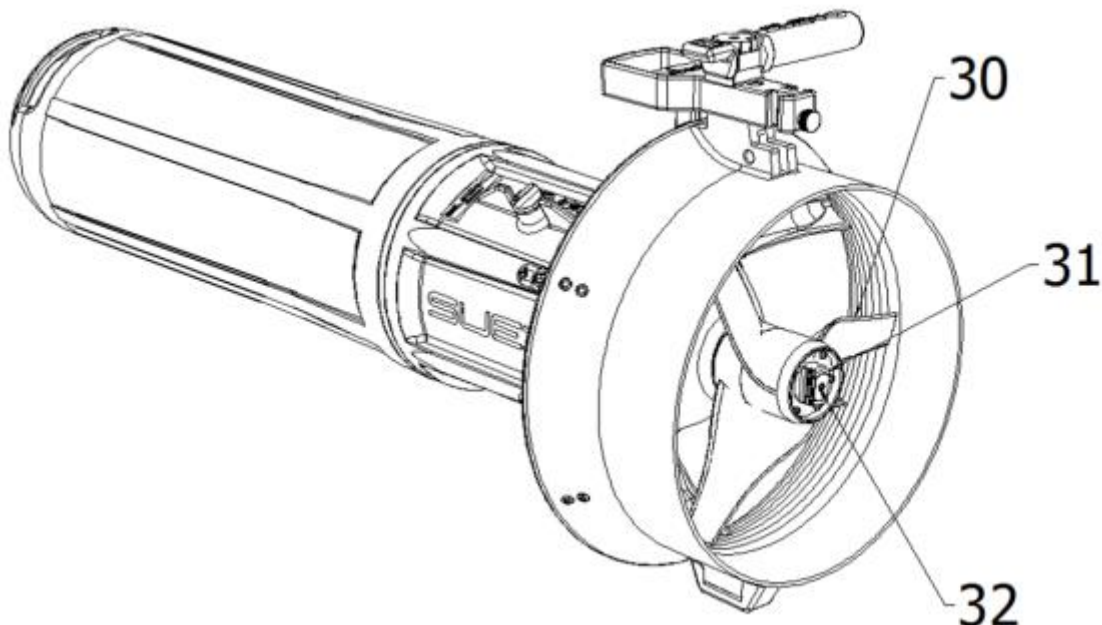

Fig.5 - Removal of the propeller
Grasp the propeller by a blade (30 - Fig. 5) and unscrew the knob (31), turning anticlockwise until the propeller is completely extracted.